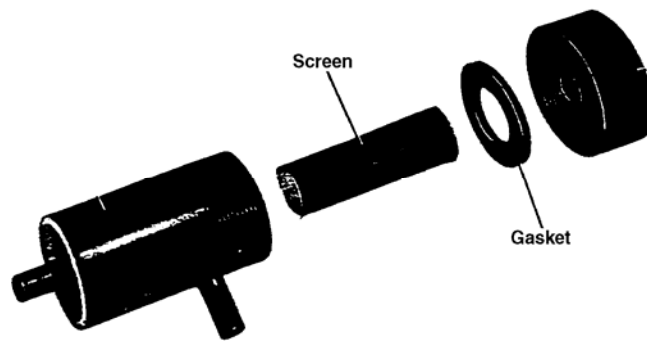

Figure 2-15. Strainer assembly.
- (1) Clamp off the tubing ahead of the strainer assembly.
- (2) Clean the screens of foreign matter and chemical deposits with a brush and warm water. Refer to figure 2-15.